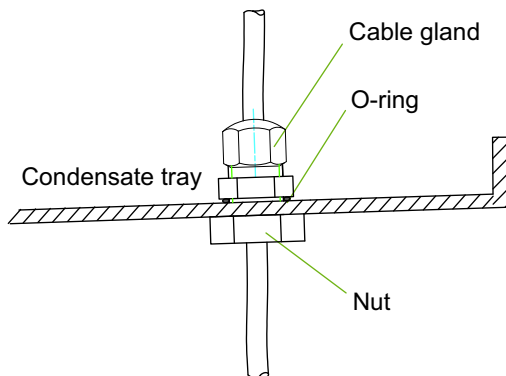

Fig. 1.4:
- 1) Drill a  $\varnothing$  16 mm hole for an additional cable gland into the condensate tray close to an existing cable feedthrough and attach the supplied strain relief (see Fig.1.4 on pag. 2).